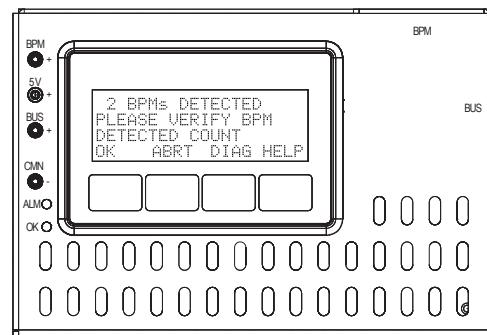

Fig. 5-6, BPM Detection Screen on BRD
5. Check BRD display to verify that two BPMs are detected. (See **Fig. 5-6**) This should reflect the BPM connected to the BRD BPM port and subsequent BMPs in the string.